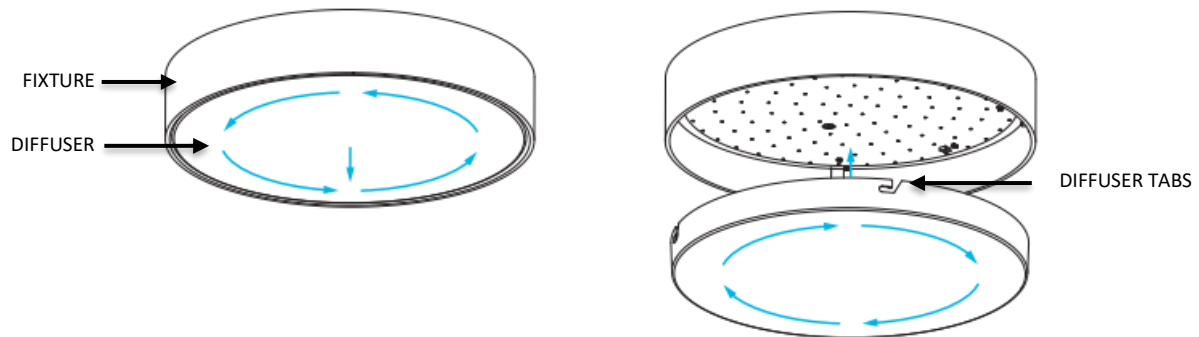

FIG. 23 – DIFFUSER LENS REMOVAL/ INSTALLATION
9. If the DIFFUSER needs to be removed (note that it comes pre-installed on the fixture), rotate the lens until it stops, and remove it from the FIXTURE. To reinstall it, align the DIFFUSER TABS with the corresponding slots and rotate the DIFFUSER until it locks into place (as shown below in FIG. 23).